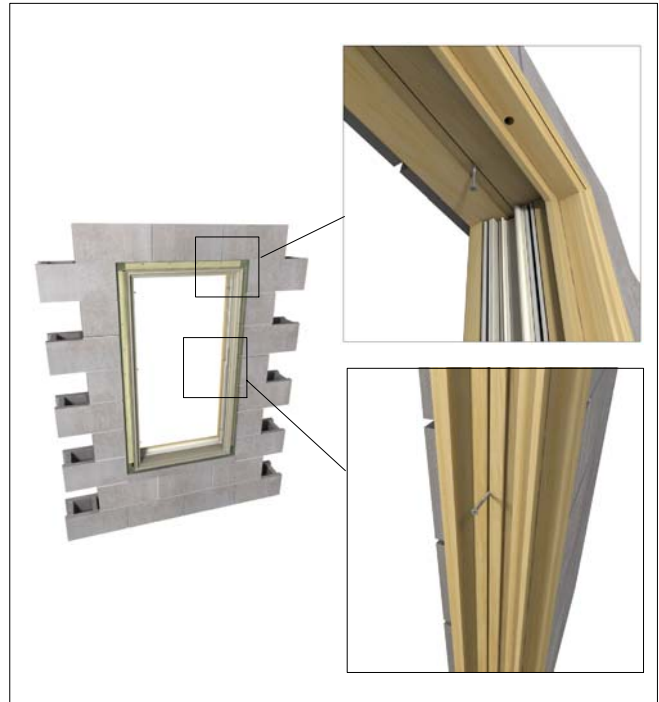

Figure 10: Exterior View, fastening through UDH frames.
3. On **Ultimate Double Hung** units, locate the screw in the jamb carrier kerf (jambs) and in the kerf used to hold the parting stop (head jamb). Make sure to countersink the screw so that it doesn't interfere with installation of the jamb liner and/or parting stop. See figure 10.